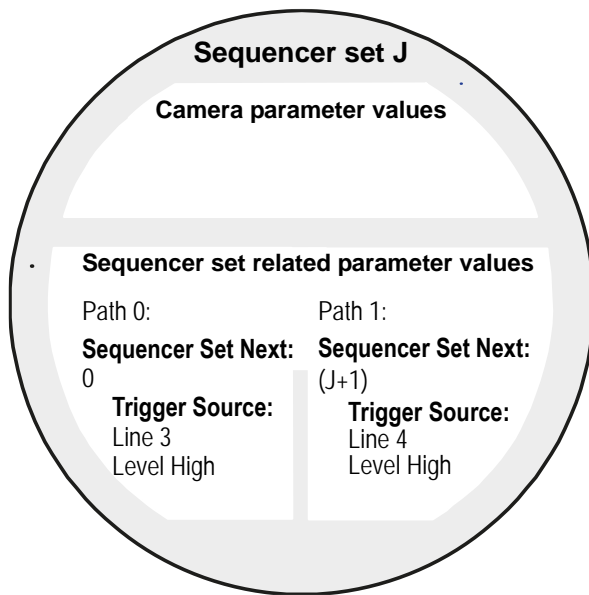

Fig. 86: Sequencer Parameters of Sequencer Set with Index Number J (Most Parameter Values as Examples)
The sequencer parameters can be divided into two types (see Figure 86):
- **Sequencer set related** parameters for sequencer control. The parameters define the details of advancing from one sequencer set to the next. This includes the possibility of choosing between different "paths" for advance, thus allowing to choose between different sequencer sets (see Figure 86 and Section 8.6.2.2).
For each path, the following parameters must be set (see also Figure 86):
- For each selected sequencer trigger source, the following parameters must be set (see also Figure 86):